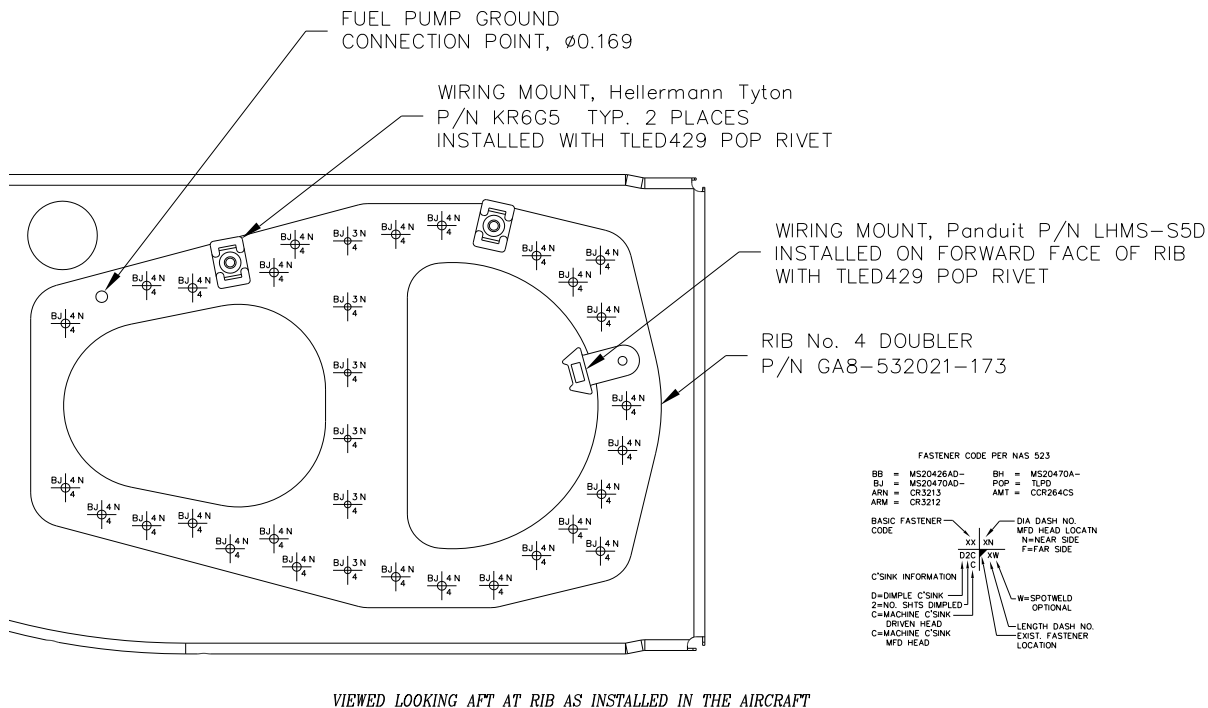

Figure 5: Installation of fasteners into the doubler.
19. Fasten the doubler to the rib using MS20470AD4-4 rivets with rivet heads on the forward face in accordance with figure 5.
21. Fasten the packer and stiffener to the doubler and rib using MS20470AD3-4 rivets with rivet heads on the forward face in accordance with figure 5.
22. Back drill the hole for the ground connection of the pump to 0.169" diameter in accordance with figure 5.
23. Attach wiring mounts to the rib/doubler in accordance with figure 5 using TLED429 pop rivets, with rivet heads on the wiring mounts.